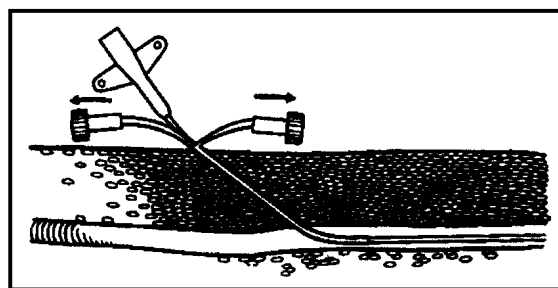

Figure 3-29
- (f) Grasp the "wings" of the sheath and slowly and firmly peel the "wings" laterally apart to split the sheath. This causes the sheath to completely come apart and out of the vein, and leaves the central venous catheter in place in the vein. (See Figure 3-29.)